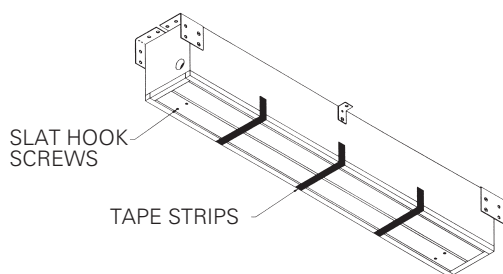

FIGURE 1
3. If you are going to cover screen door with paneling or other materials, allow access (suitable holes or plug) to slat hook screws (4) when servicing (Fig. 1).